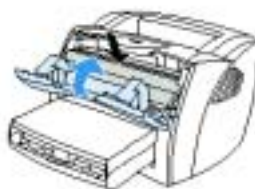

Figure 12. Inserting the Cartridge
6. Insert the new toner cartridge in the printer, making sure that the toner cartridge is in the correct position. Figure 12 shows where to insert the toner cartridge.